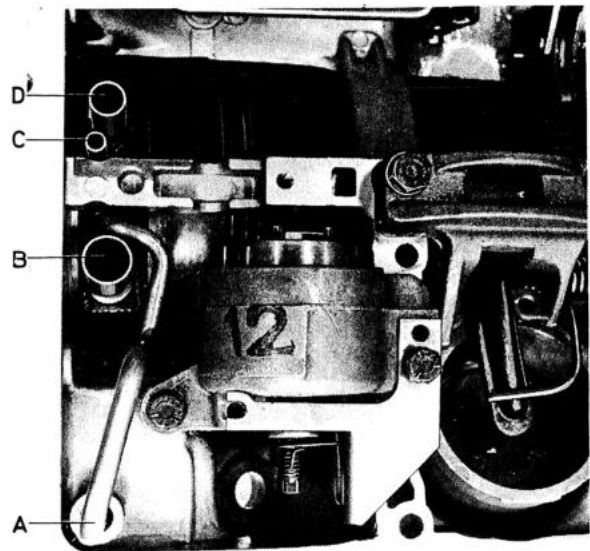

Fig. 4-116. Location of oil tubes, front of gearbox
24. Fit the oil tubes for the pump and converter on the front pump, see Fig. 4-116. Do not forget the O-ring for the pump inlet tube.